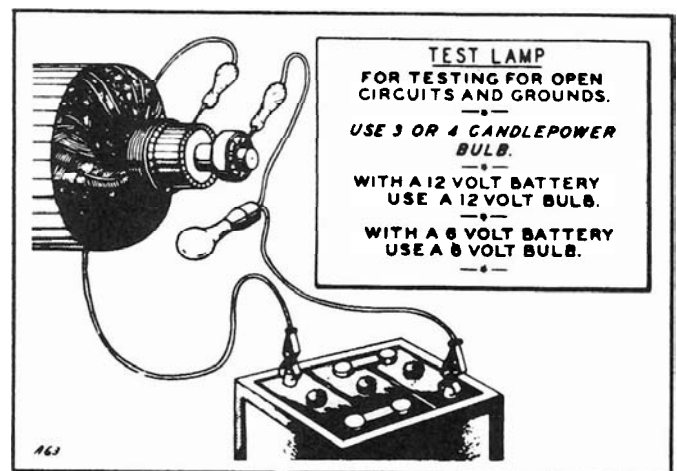

Figure 12. Maintenance and Repair
**TESTING FIELD FOR OPEN CIRCUITS:** First, disconnect battery wires (if any) from the generator. Raise all brushes from commutator and/or collector rings. Disconnect field leads from terminals. Using a test lamp arrangement as shown in Figure 12, connect one end of test lamp wire to one field lead. Touch other field lead with wire lead from the battery. If test lamp does not burn, field circuit is open. NOTE: Broken wires or loose connections between generator field and control panel should be checked first. An open circuit in the field winding will prevent the plant from generating.
**TESTING ARMATURE/ROTOR FOR GROUNDS:** Disconnect battery and A-C wires from the generator. Raise all brushes from commutator and collector rings. Place one end of test lamp wire on commutator. Place other end of test lamp wire on clean surface of armature shaft. If test lamp burns, the armature winding is grounded. If test lamp does not burn, the winding is not grounded. (See Figure 12)